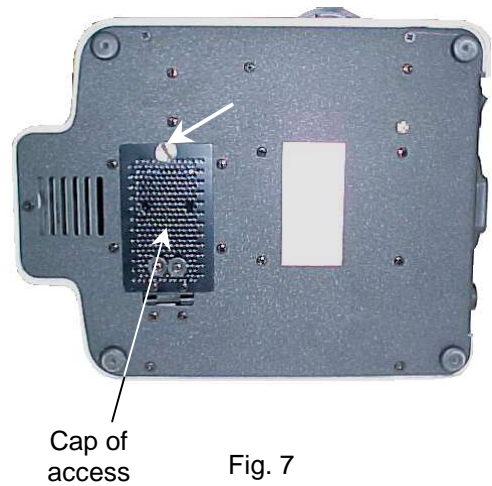

Fig. 7
- a. Lay the microscope on its side taking extreme care, especially with the eyepieces (1) and the specimen slide holder mechanism (6).
- b. Unscrew the screw marked by the arrow. (Fig. 7).